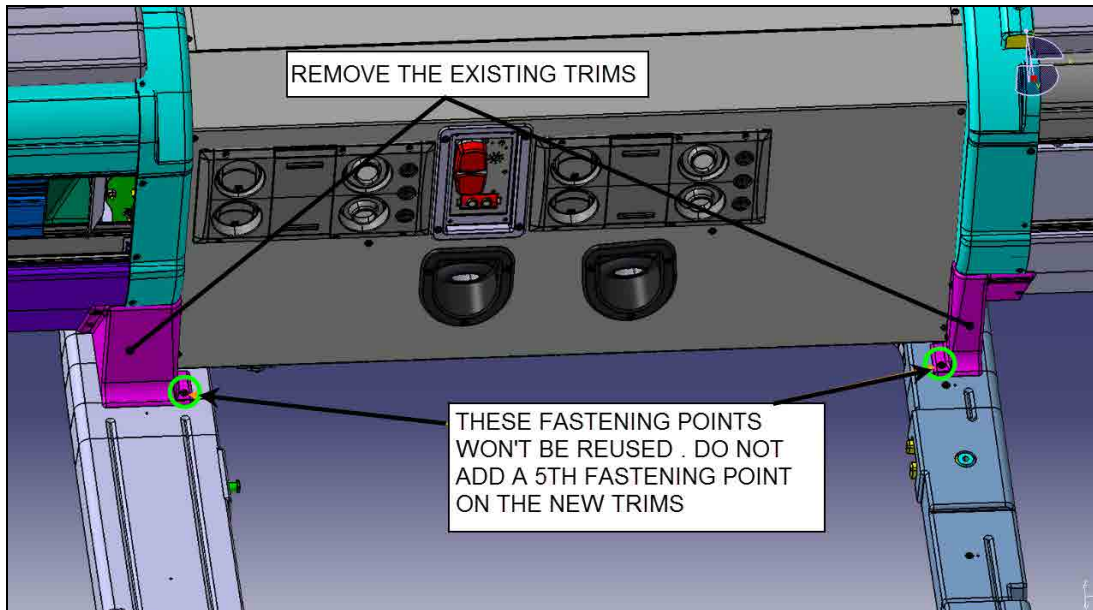

FIGURE 1
- 1) Remove the finishing trims shown on figure 1.